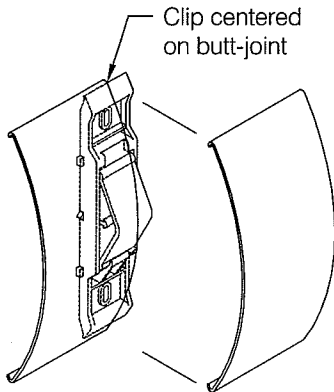

fig 7
- At each snap-on cover butt-joint, see **fig 7**
**Step 8:** Measure between accessories, including optional vertical accents where used, and cut the vinyl cover. Miter cut the cover for all special angle corners not accommodated by the molded accessories. Install a Quik Clip retainer centered at each butt-joint location, see **fig 7**.